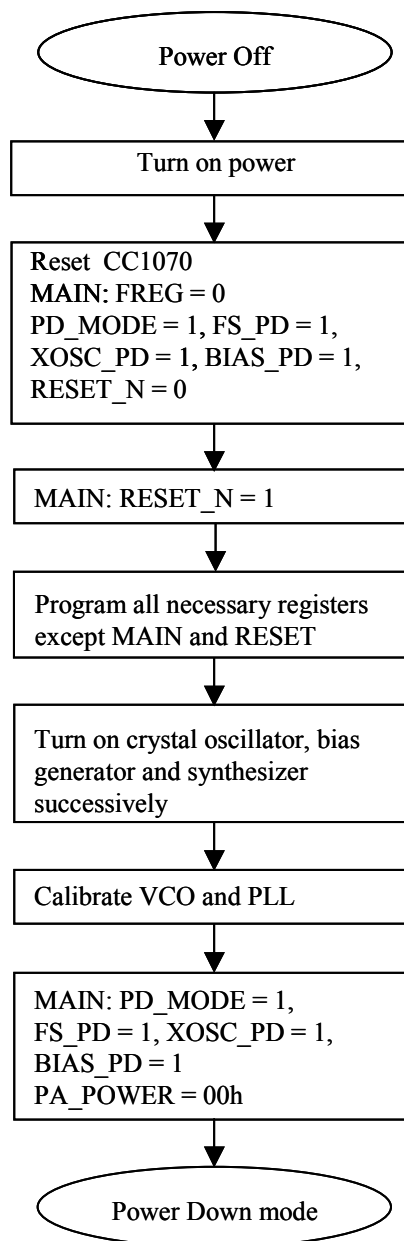

Figure 18. Initializing sequence
*CC1070* offers great flexibility for power management in order to meet strict power consumption requirements in battery-operated applications. Power down mode is controlled through the *MAIN* register. There are separate bits to control the TX part, the frequency synthesizer and the crystal oscillator in the *MAIN* register. This individual control can be used to optimize for lowest possible current consumption in each application. Figure 18 shows a typical power-on and initializing sequences for minimum power consumption.